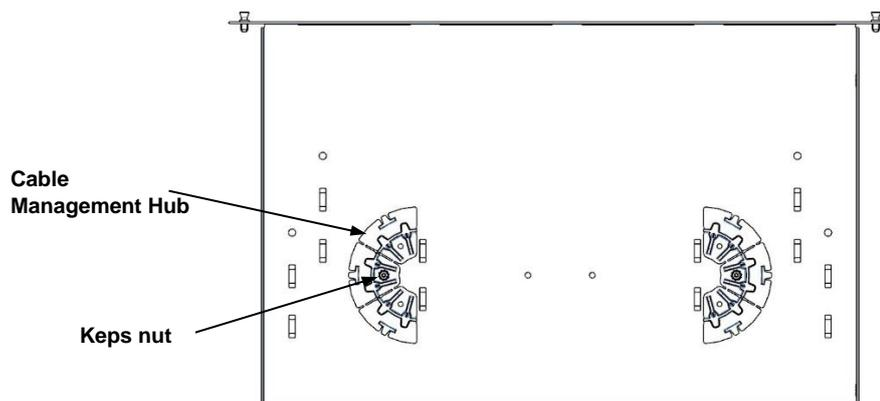

Fig.3
3.3.1 Cable Management hubs (Fig. 3)